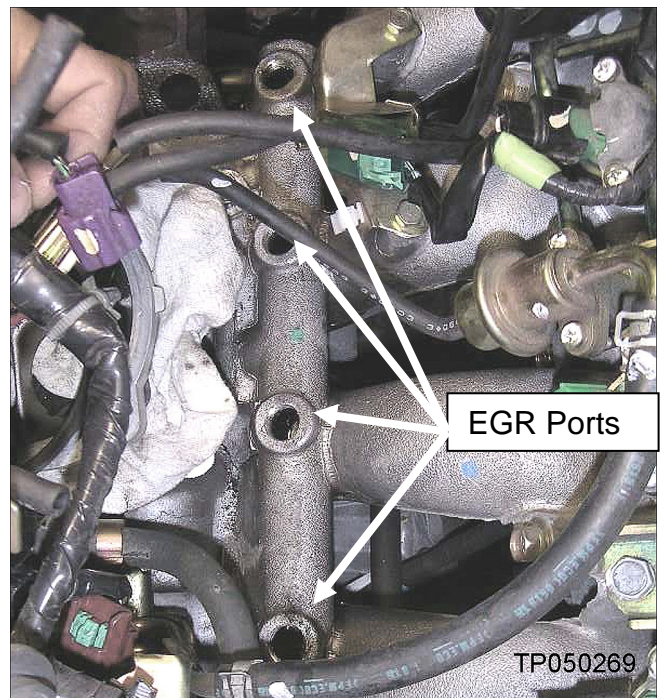

Figure 3
3. Remove the plugs for the EGR ports (see Figure 3).